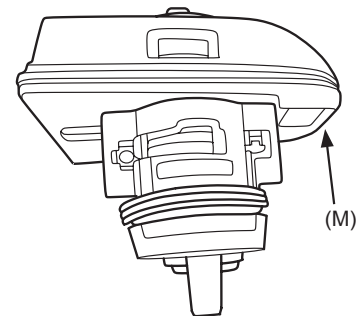

FIGURE 9
11. Install the gasket (M). (Refer to Figure 9).